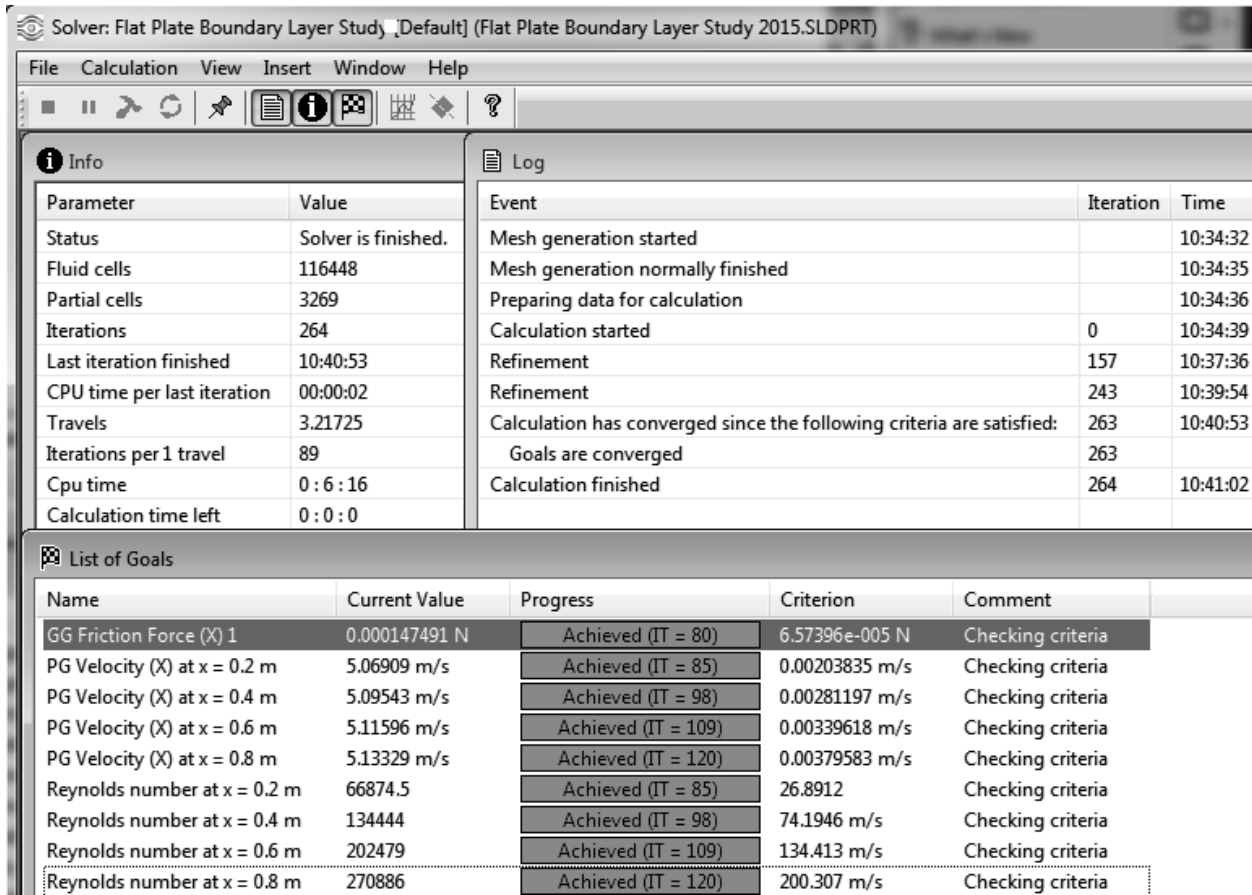
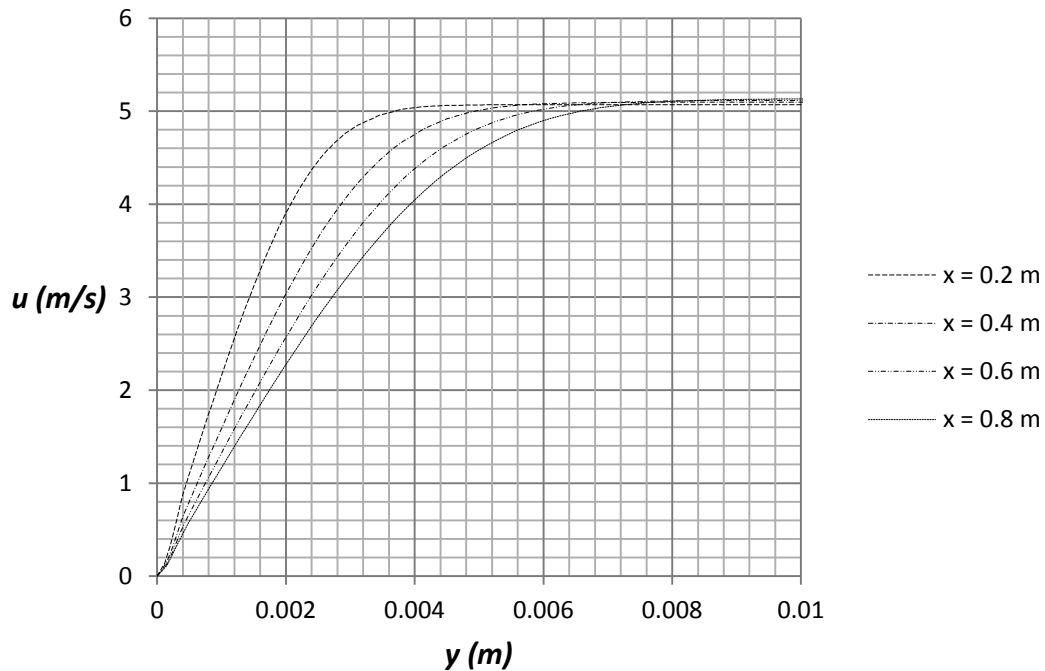
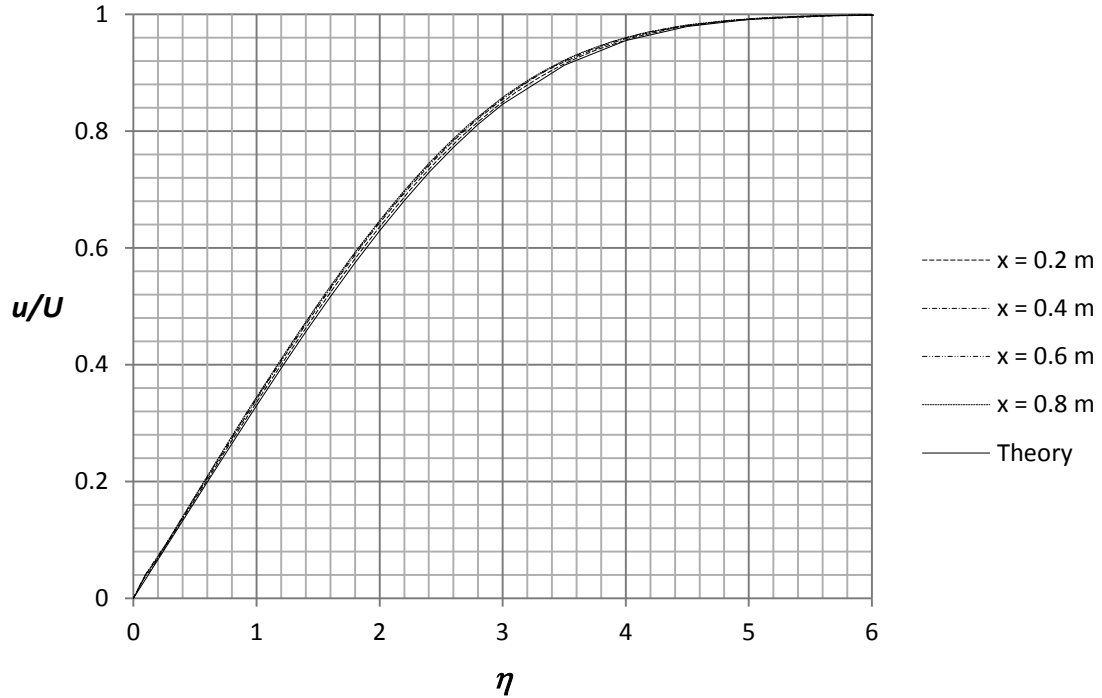

Figure 2.22c) Solver window
Figure 2.24c) Boundary layer velocity profiles on a flat plate at different streamwise positions
Figure 2.25a) Velocity profiles in comparison with the theoretical Blasius profile (full line)
Select **Module1** in the **Modules** folder under **VBAProject (graph 2.24c).xslm**. Select **Run>>Run Macro** from the menu of the **MVB for Applications** window. Click on the **Run** button in the **Macros** window. Figure 2.24c) will become available in **Excel** showing the streamwise velocity component u (m/s) versus wall normal coordinate y (m). Close the **XY Plot** window and the **graph 2.24c)** window in **Excel**. Exit the **XY Plot** window in **SOLIDWORKS Flow Simulation** and rename the inserted xy-plot in the **Flow Simulation analysis tree** to **Laminar Velocity Boundary Layer**.
26. Place the file “**graph 2.25a**” on the desktop. Repeat step 24 to plot Figure 2.25a). Rename the xy-plot to **Comparison with Blasius Profile**.
We see in figure 2.25a) that all profiles at different streamwise positions collapse on the same Blasius curve when we use the boundary layer similarity coordinate.
From the data of figure 2.24c) we can see that the thickness of the laminar boundary layer is close to 3.80 mm at $Re_x = 66,875$ corresponding to $x = 0.2$ m. The free stream velocity at $x = 0.2$ m is $U = 5.069$ m/s (see figure 2.22c) for list of goals in solver window) and 99% of this value is $U_\delta =$
5.018 m/s. The boundary layer thickness $\delta = 3.80$ mm from Flow Simulation was found by finding the y position corresponding to the U_δ velocity. This value for δ at $x = 0.2$ m, and corresponding values further downstream at different x locations are available in the Plot Data for Figure 2.25a). The different values of the boundary layer thickness can be compared with values obtained using equation (3). In table 2.1 comparisons are shown between boundary layer thickness from Flow Simulation and theory corresponding to the four different Reynolds numbers shown in figure 2.24c). The Reynolds number varies between $Re_x = 66,875$ at $x = 0.2$ m and $Re_x = 270,886$ at $x = 0.8$ m.
The average friction coefficient over the whole plate C_f is not a function of the surface roughness for the laminar boundary layer but a function of the Reynolds number based on the length of the plate Re_L ; see figure E3 in Exercise 8 at the end of this chapter. This friction coefficient can be determined in Flow Simulation by using the final value of the global goal, the X-component of the Shear Force F_f [see figure 2.22c)], and dividing it by the dynamic pressure times the area A in the X-Z plane of the computational domain related to the flat plate.